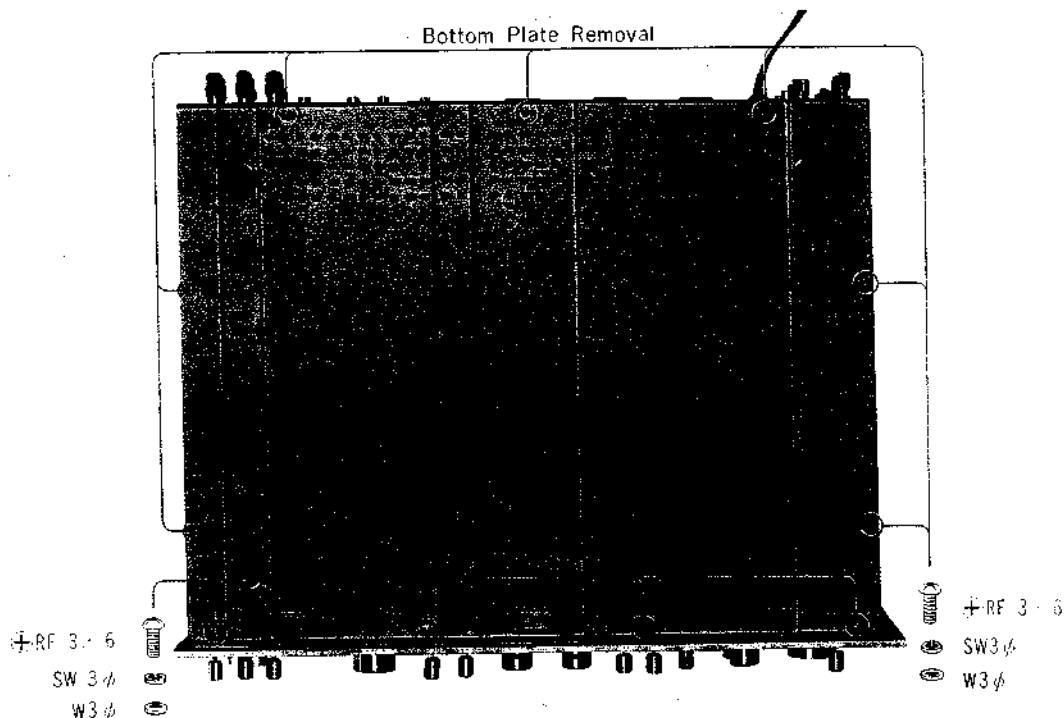

Fig. 2-1-1 Bottom Plate and Front Panel Removal
- (b) Loosen off seven Phillips-Head screws (+RF 3 ϕ ×6) at the bottom of the receiver and pull the bottom plate towards the rear of the receiver. See Fig. 2-1-1.
- (d) Turn the receiver over and loosen off four Phillips-Head screws (+RF3 ϕ ×6) at the front bottom edge of the chassis. See Fig. 2-1-1. This frees the front panel.